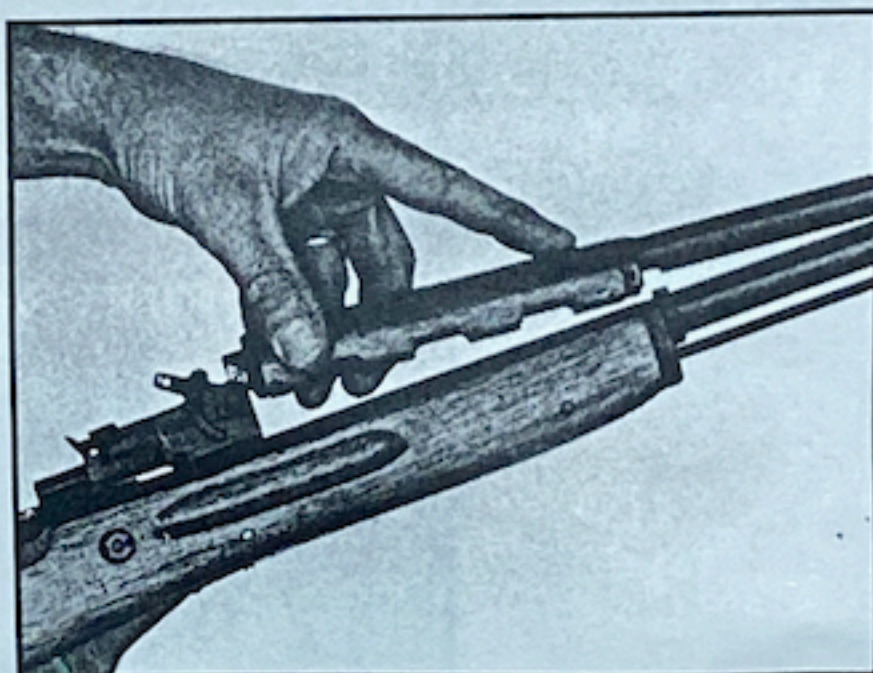

Figure 14
6. Now remove the Gas Tube/ Handguard Assembly, raise the handguard assembly and rock it slowly from side to side until it can be pulled away from the gas block. (Figure 14)